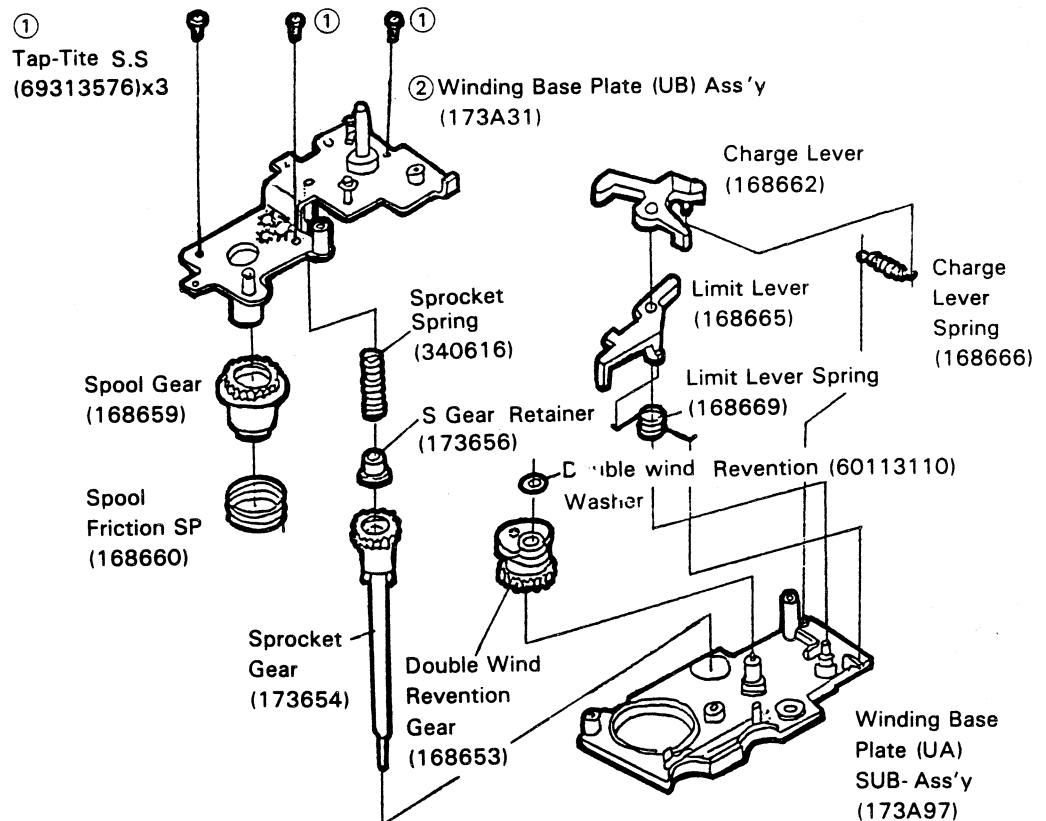

Fig. 38
- (2) Remove the parts shown in Fig. 38 in the numerical order.